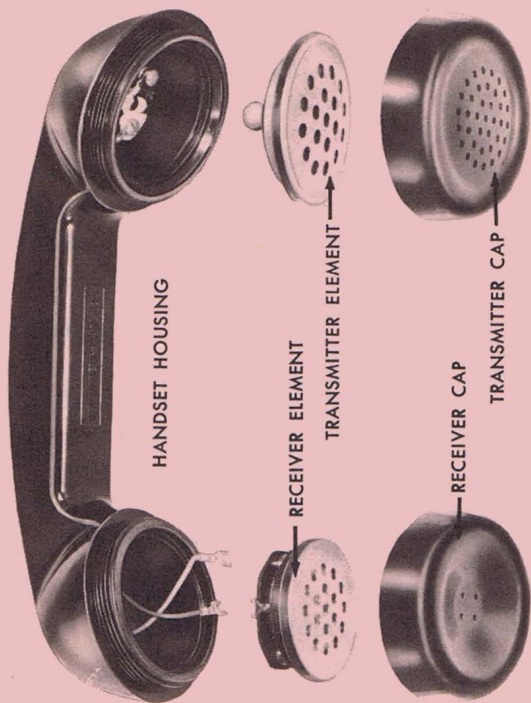

Figure 8. Handset Assembly.
c. *Handset Assembly* (fig. 8). The handset assembly of the 1543 or any of the 1500 Series Telephone consists of the handset, transmitter and receiver elements, the transmitter and receiver caps, and handset cord. The handset is so designed that the transmitter is brought closer to the subscriber's lips, thus improving transmission. The transmitter element is of the carbon type and is non-positional. Its connections are made through the metal spring contacts in the handset and held in place by the transmitter cap. The receiver element is connected by two screws to the spade terminals of the wires running through the handle of the handset and is held in place by the receiver cap. The handset cord, either standard or retractile, is secured to the stay-post of the handset by a screw. The three wires of the cord are terminated with spade terminals and secured to their correct positions by screws.